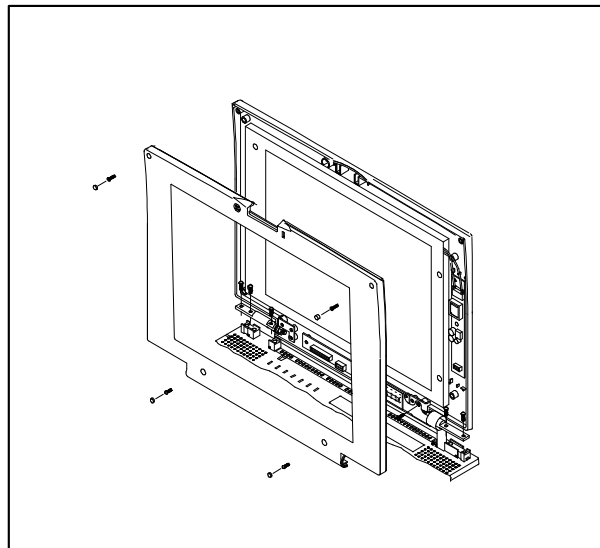

Figure 6-13 Removing/Replacing the Display Assembly
3. Remove four screws from the face of the LCD cover and pull the covers apart starting at the top of the Display (refer to Figure 6-13).